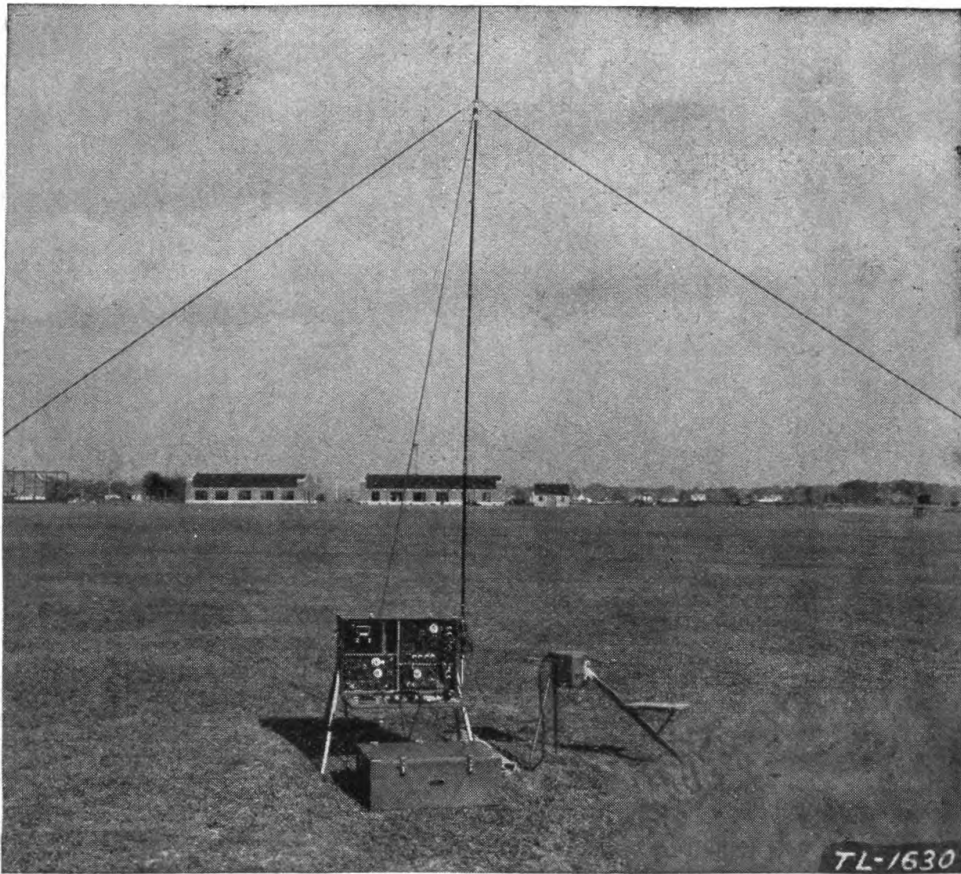

FIGURE 1.—Radio set SCR-178 set up for operation.
2. **Description.**—*a. Radio set SCR-178* (fig. 1).—The radio set SCR-178 is a portable, low power, high frequency transmitter and receiver. It has a sectional mast antenna of steel tubing approximately 28 feet in height when erected. Power for the transmitter is furnished by a hand generator and that for the receiver by dry batteries.